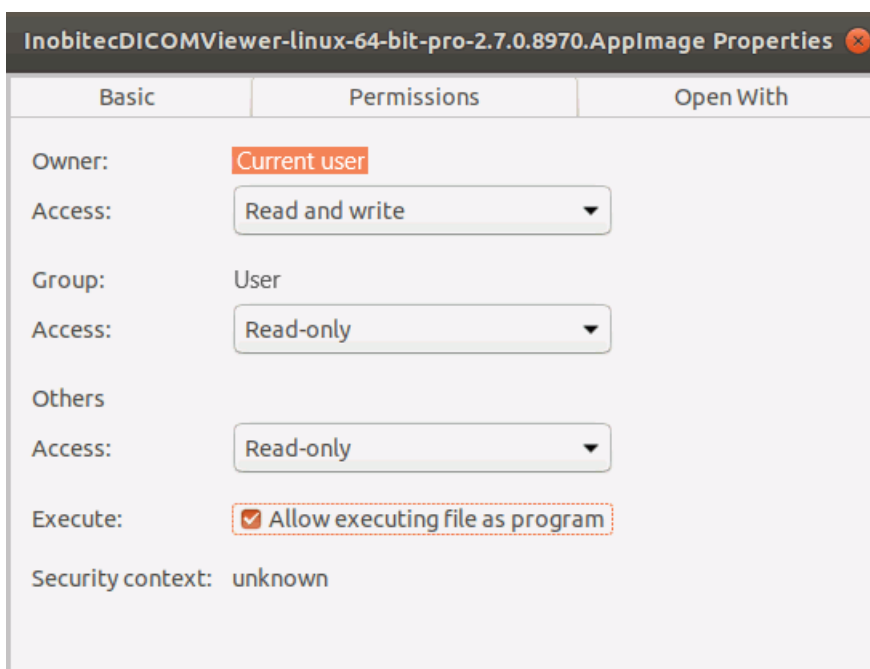

Figure 15: «Properties» menu
2. Provide the Applmage file a permission to be executed. For that purpose, mouse over the file and click the right mouse button. On the context menu, select **Properties**. When the **Properties** menu (Fig. 15) pops up, go to the **Permissions** tab and check the **Allow executing file as program** box. Close the **Properties** menu.